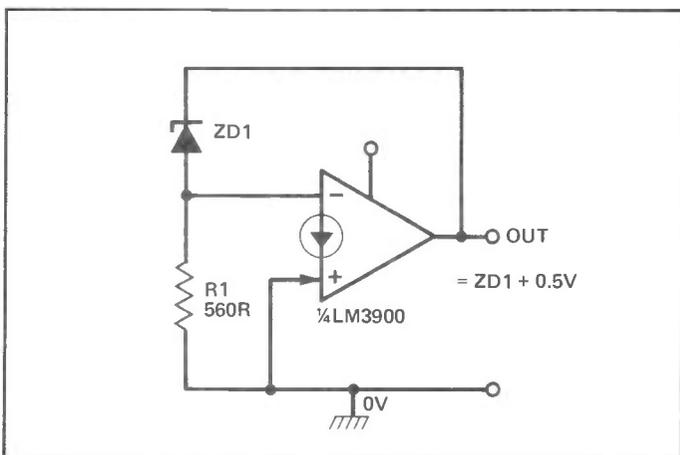
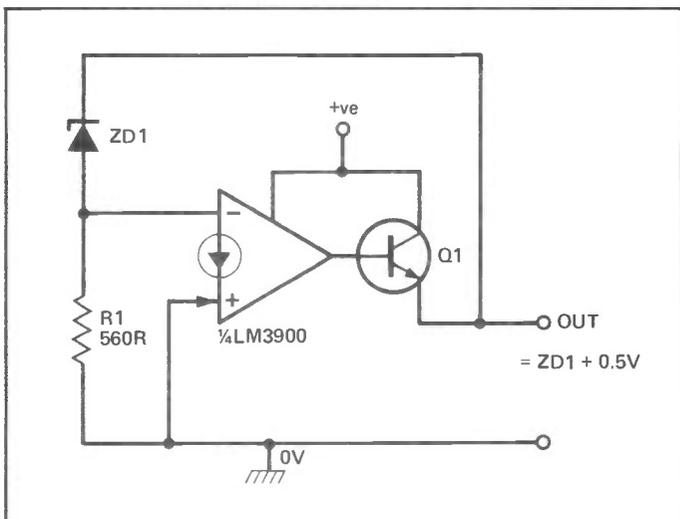

Figure 23: Fixed-voltage reference.
Figure 24: Current-boosted voltage reference.
**Figure 23** shows a fixed-voltage reference circuit, which generates a well regulated output that is slightly greater than the ZD1 voltage. R1 sets the zener current at about 1 mA. The **Fig. 23** circuit can safely supply output currents of only a few mA, but this can easily be boosted to tens or hundreds of mA by wiring an npn current-boosting transistor into the output feedback loop of the circuit, as shown in **Fig. 24**.